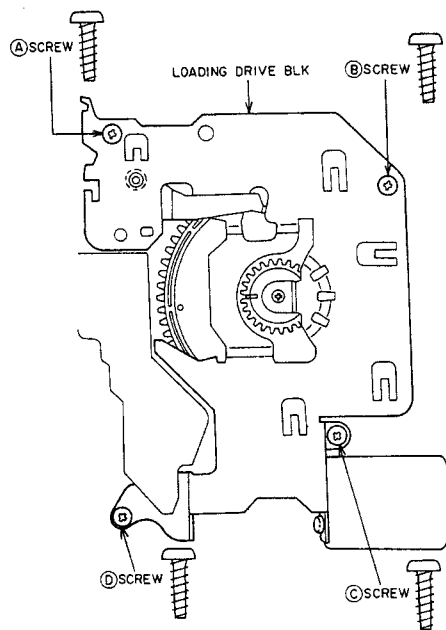

Fig. 3-13
2) Install the LOADING DRIVE BLK as shown in Fig. 3-13.